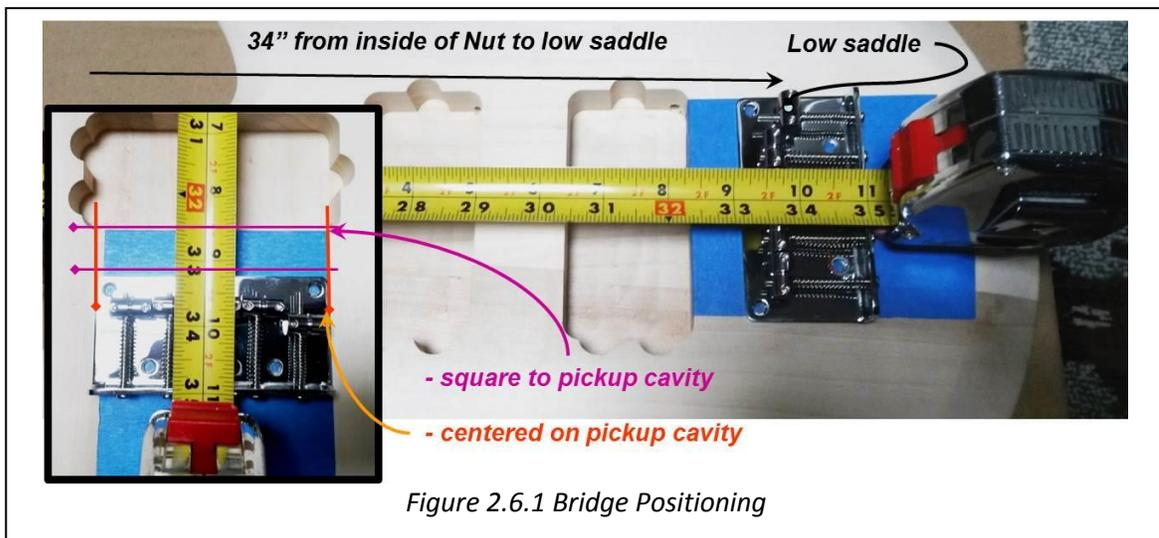

Figure 2.6.1 Bridge Positioning
2.6.1 Positioning and Alignment of the Bridge (Figure 2.6.1)..... - 3 -
### 2.6.1 Positioning and Alignment of the Bridge (Figure 2.6.1)
- Using painters or masking tape, tape off a 3" X 4" directly behind the Bridge cavity, then position the bridge so that the low saddle is 34" from the inside of the Nut (Figure 2.6.1).